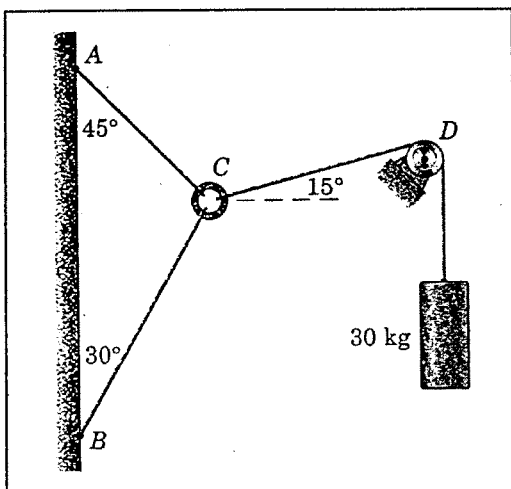

Figure 1
- In Figure 1 below, if the crate has a weight of 100 N, determine the magnitude of the tension in cable CD and the angle  $\theta$ .
1. In Figure 1 below, three cables are jointed at the junction ring C. Determine the tensions in cables AC and BC caused by the weight of the 30-kg cylinder.